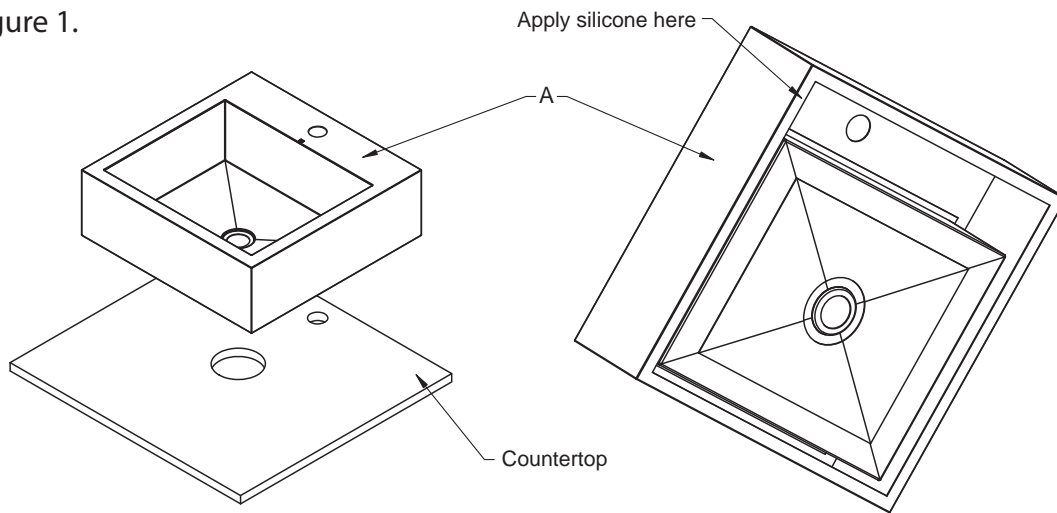

Figure 1
- o Apply clear silicone around the bottom of SS Vessel (A).
- o Refer to Figure 1.